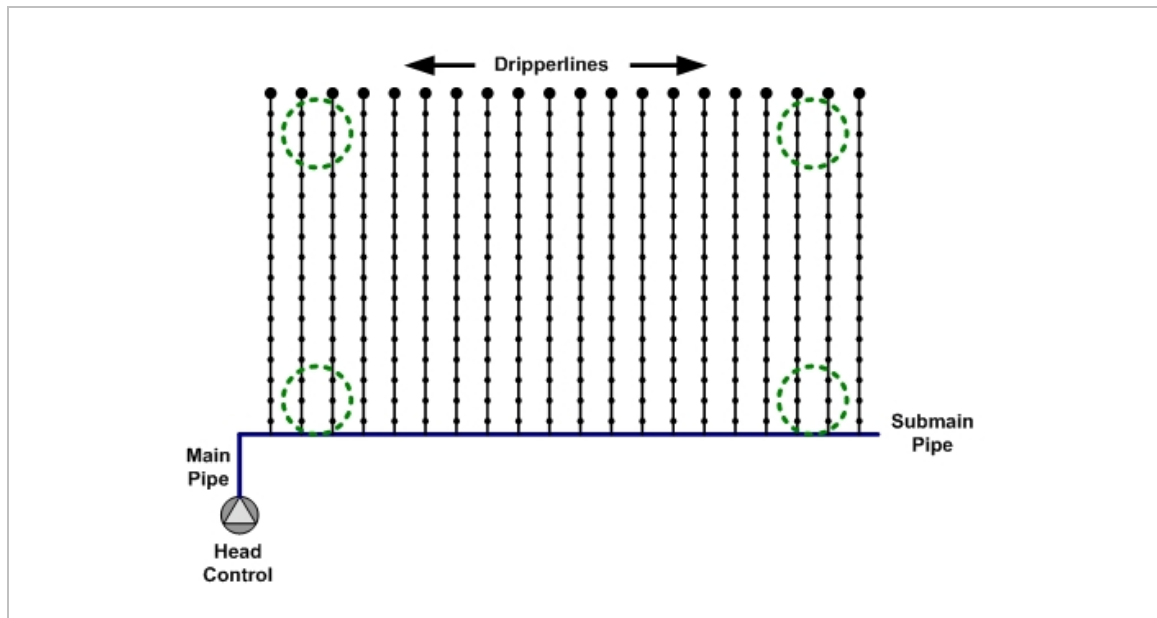

Figure 1. Taking Dripperline Samples
- Figure 1. Taking Dripperline Samples 3
2. The minimum requirement for a sample is 30 cm (15 from each side of the dripper hole), nevertheless Netafim recommends taking samples comprising of at least three drippers, this allows to perform accurate flow tests if required (See Figure 1 for further info);
4. Samples should be taken from a representative area; if the effected area is visibly noticed, take the samples from that area, otherwise it is recommended to take samples from the end and the beginning of the lateral (See Figure 1 for further info);